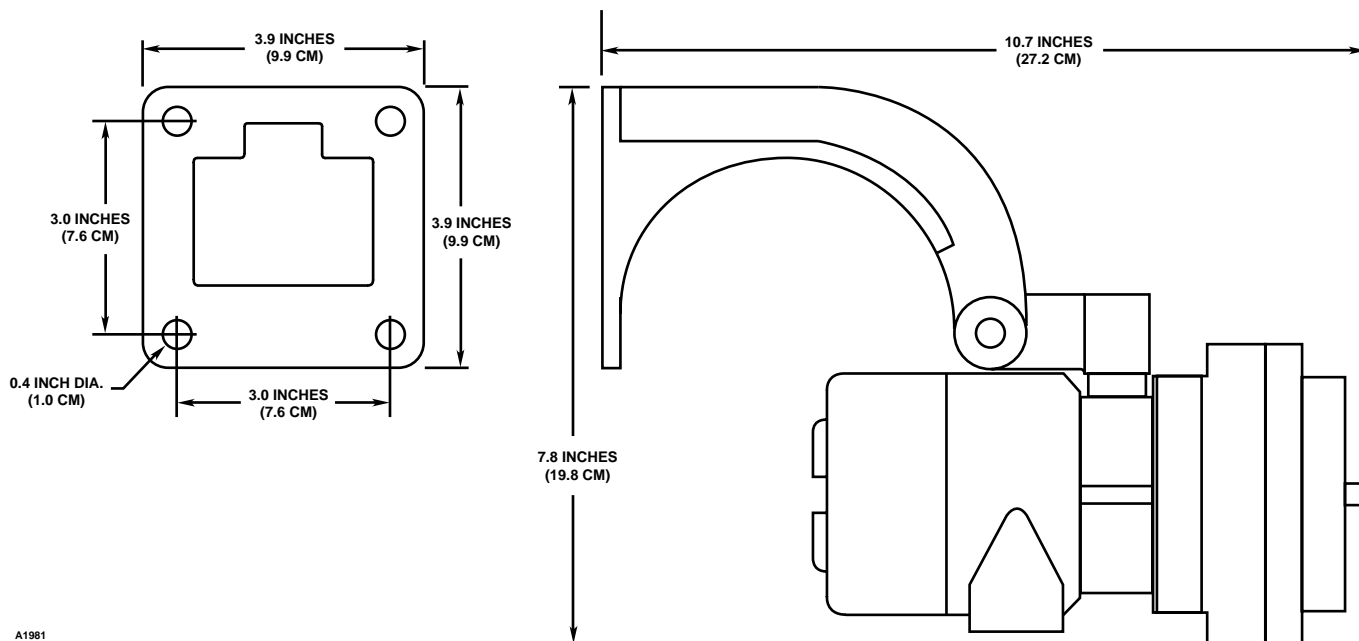

Figure 8—Q9033 Mounting Bracket Dimensions in Inches (cm)
1. Install the swivel mounting bracket assembly on the wall. The installation surface should be free of vibration. Refer to Figure 8 for dimensions of the Q9033 swivel mount.